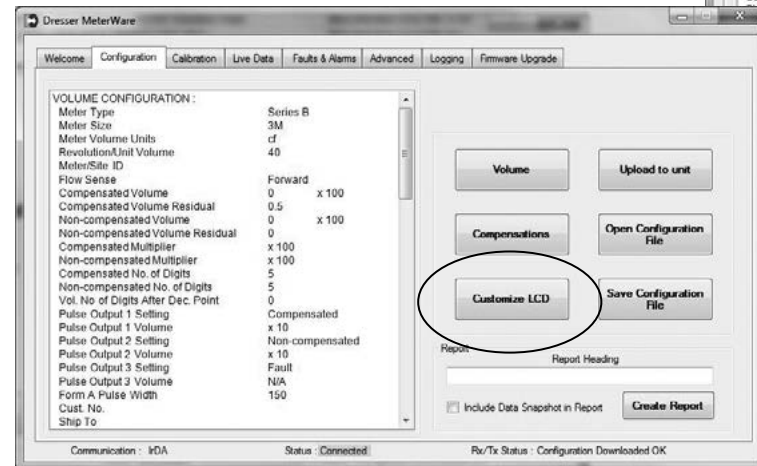

Figure 14.3 - Configuration screen in Dresser MeterWare
- A. Using the Dresser MeterWare software (refer to Section 12), go to the **Configuration** screen (Figure 14.3), and click **Customize LCD**, which will open the **LCD Settings** screen.